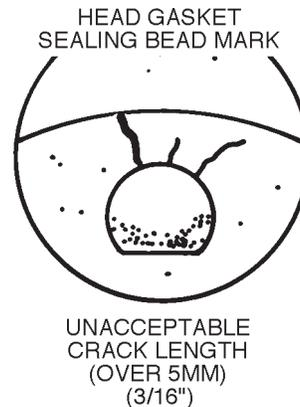

Figure 4-14. Pre-chamber Cracks.
I. PRE-CHAMBER CRACKS (Figure 4-14)